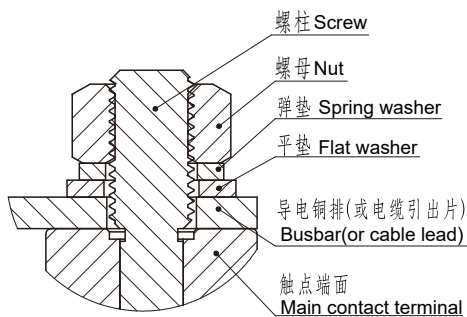

图1(Fig1)
- 10.当产品使用1个及多个导电铜排连接时，请确保导电铜排与触点端面紧密贴合（多个铜排需确保大电流的导电铜排最贴近触点端面，小电流的导电铜排其次），然后是平垫圈、弹簧垫圈、螺母。不正确的连接顺序可能造成严重过热，参考下图1：
When the product is connected with one or more conductive copper bars, please ensure that the conductive busbars closely fit the contact terminal surface (The conductive copper bars with high current must be closet to the contact terminal surface if there are multiple copper bars and then conductive busbars with low current), followed by flat washers, spring washers and screws.Incorrect connection sequence perhaps give rise to severe overheating. Refer to Figure 1 as follows: